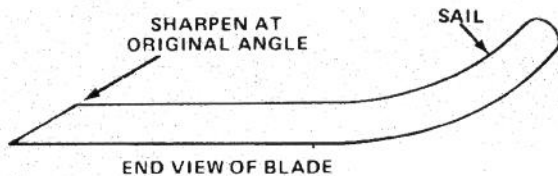

Figure 27
7. Using a file, sharpen cutting edge at both ends of the blade (Fig. 27). File only top side of blade, not the bottom side.